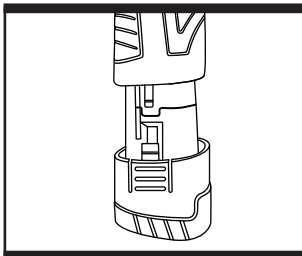

Fig. 2
2. TO REMOVE OR INSTALL BATTERY PACK (Fig. 2)